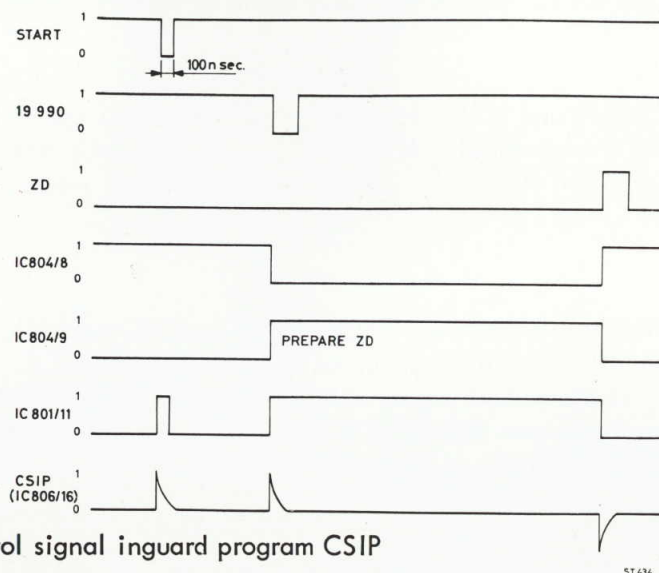

Fig. 25 Control signal inguard program CSIP
Via pulse transformer T801 the information "start", "19 990" and "zero detect" (ZD) are supplied to the inguard program (see pulse diagram Fig. 25).